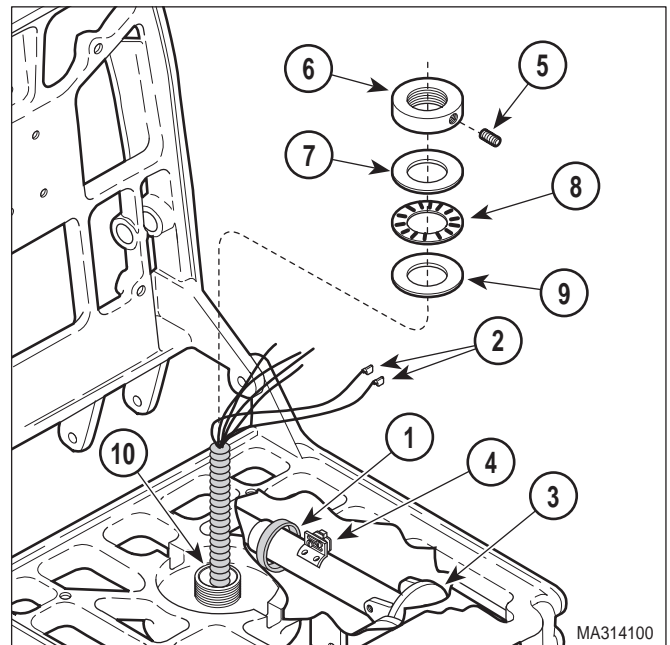

Figure 4-12. Thrust Bearing Removal / Installation
- (11) Remove two screws (7) securing cable ties (8) to seat casting (2).
- (12) Remove screw (9) securing cable clamp (10) to seat casting (2). Remove cable clamp from wires.
- (13) Disconnect wire harness (11) from wire harness (12).
- (14) Cut cable tie (1, Figure 4-12) securing two wires (2) from shaft of back actuator (3).
- (15) Tag and disconnect two wires (2) from back up limit switch (4).
- (16) Using a 1/8 inch Allen Wrench, loosen set-screw (5).
- (17) Unscrew seat nut (6) by turning in counter-clockwise direction.
- (18) Remove thrust washer (7), thrust bearing (8), and thrust washer (9) from threaded post of slide weldment (10).
- (1) Inspect threads of slide weldment (10, Figure 4-12). They are likely to be deformed because of the setscrew. If so, use a 20 threads per inch thread file to clean up the threads.